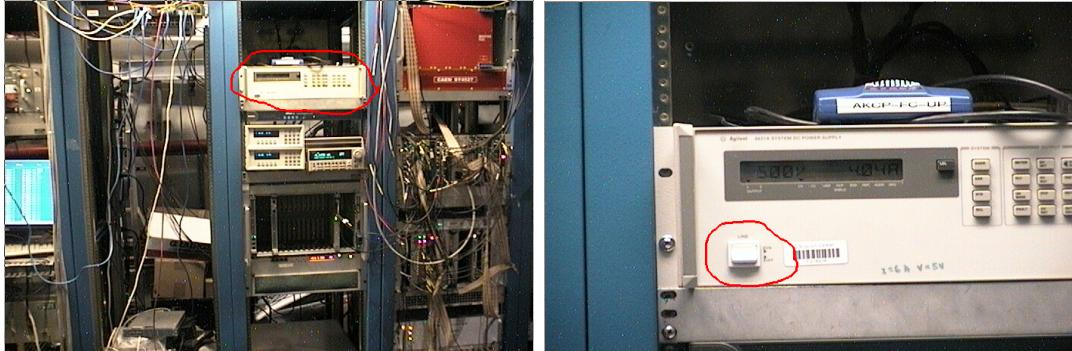

Figure 17: Location of Agilent LW power supply near the top of the middle rack in the pie tower. Power switch circled.
- The LV supply is on the Pie Tower at the top of the middle rack. See figure 17.